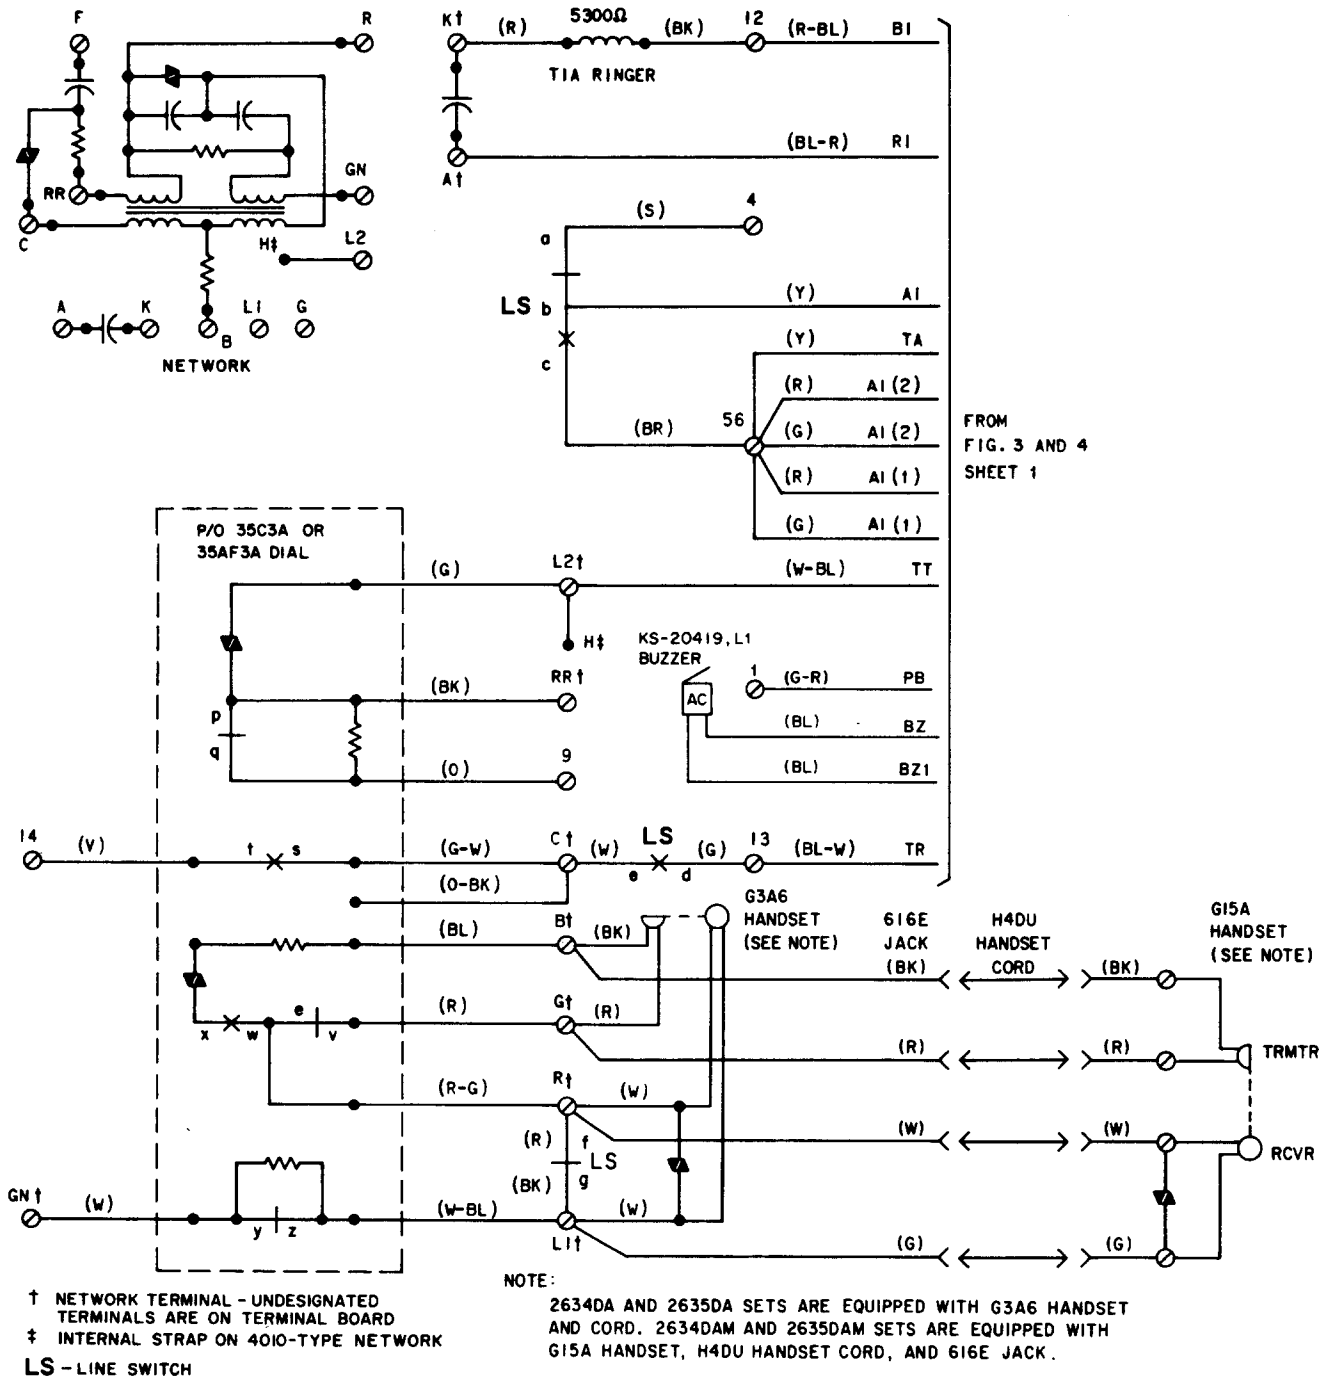

Fig. 1—2634DA (MD), DAM (MD), and 2635DA (MD), DAM (MD) Telephone Set Connections†
**1.01** This section contains information for 2634DA (MD), 2634DAM (MD), 2634DAMS1 (18-button) and 2635DA (MD), 2635DAM (MD), 2635DAMS1 (30-button) CALL DIRECTOR® telephone sets used with station line concentrator (Fig. 1, 2, 3, and 4).